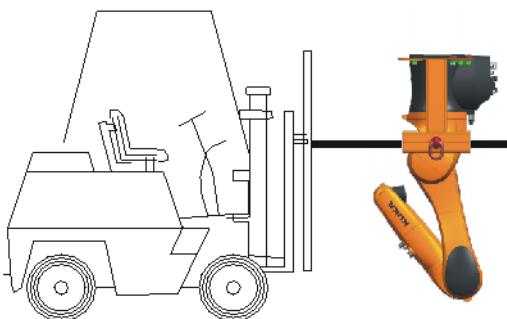

Fig. 8-11: Lifting the Load Lifting Attachment with a fork lift truck
11. Lift the Load Lifting Attachment with a fork lift truck (**>>> Fig. 8-11**).